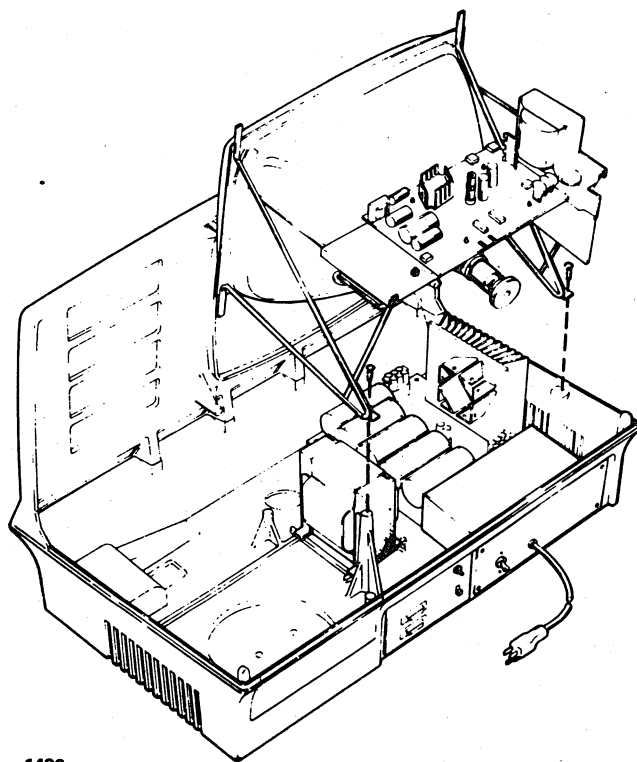

Figure 6-17. Removing Video Module
6. Grasp the video module by the mounting frames with both hands and carefully withdraw the entire module from the cabinet (figure 6-17). Check to see that the